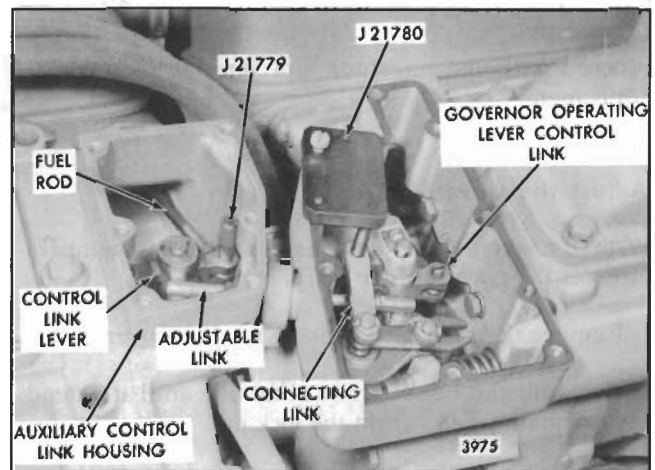

Fig. 2 - Positioning Control Link Levers
If the engine or governor has been overhauled, or the injector control linkage has been disturbed, the control link levers in the governor housing and auxiliary control link housing must be aligned before proceeding with the engine tune-up. Refer to Fig. 2 and position the control link levers as follows:
6. Remove the connecting pin from the control link lever in the governor housing and install gage J 21780. Install the gage so the pin extends through the connecting link, control lever and fuel rod and the governor housing dowel pin extends into the small hole in the gage. Then install a governor cover bolt as shown in Fig. 2 to lock the gage in place. With gage J 21780 in place, the governor control link lever will be in the mid-travel position and parallel to the auxiliary control link lever.